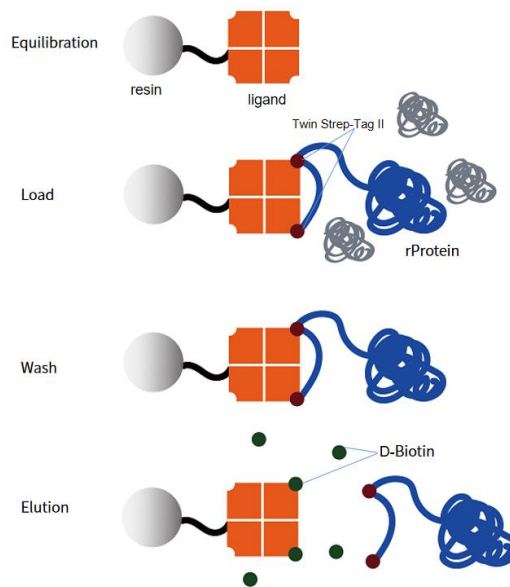

Figure 3. Schematic diagram of STarm Beads 4FF purification
**STarm Beads 4FF** binds Strep-Tag II in three general steps: Binding, Wash, and Elution (Figure 3).